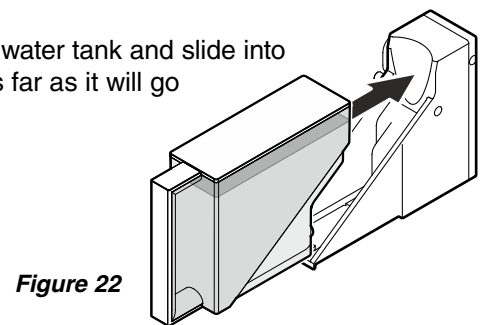

Figure 22
3. Reinsert the water tank and slide into the holder as far as it will go (Figure 22).